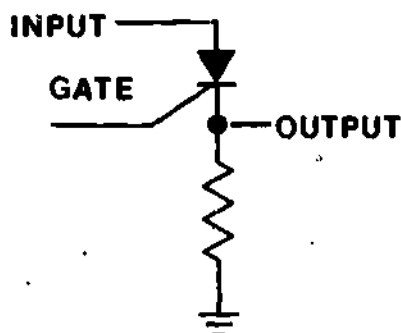

Figure 4
6. Depending on the circuit application we can apply either a DC level or an AC signal to the gate of an SCR. In Figure 4, a DC level of +.4 volts is required for the gate to turn the SCR on. Other types of SCRs may require different voltage levels on the gate to turn them "on". Most of the SCRs you will see will have from +.1 volts to +1 volts applied to the gate for a turn on voltage.